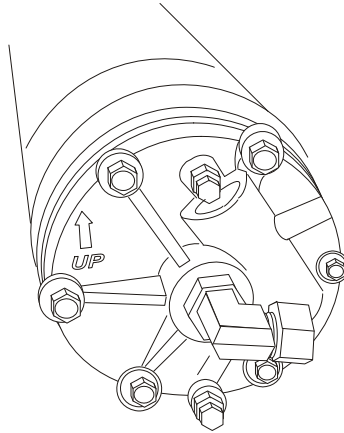

Figure 4.3
- Apply Loctite pipe thread sealant and install a fitting to the outlet on the tank. A 90 degree fitting is recommended. Tighten it to about the four o'clock position for testing, then reposition as required for final connections (Figure 4.3).